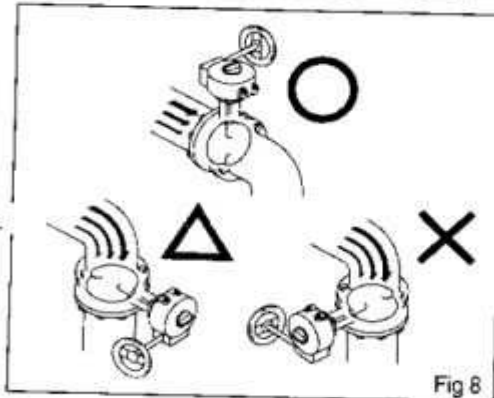

Fig 8
- **Installation the valve to a bent pipe** : Upon installation of the valve to the pipings, no definite limitation of direction of the valve being installed but, under such condition as illustrated in Fig 8, direction of stem to be cared.